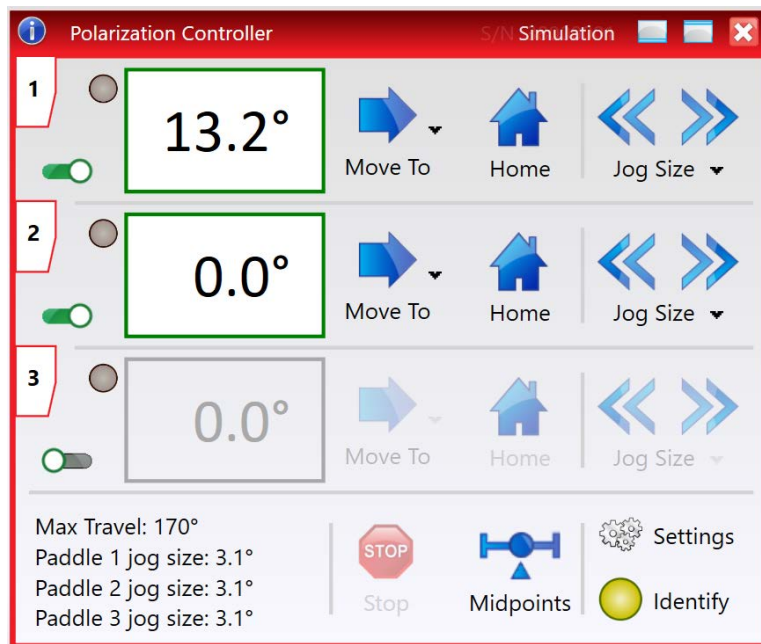

Fig. 7.1 GUI Panel Showing Step and Identify Buttons
- 3) Run the Kinesis program - Start/All Programs/Thorlabs/Kinesis/Kinesis. The server registers automatically the units connected on the USB bus and displays the associated GUI panels as shown in Fig. 7.1.